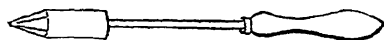

Fig. 513
1. A soldering iron (Fig. 513). This can be bought for sixpence at any ironmonger's. It is best to get one not too long in the stem, as otherwise it is difficult to hold it steady.